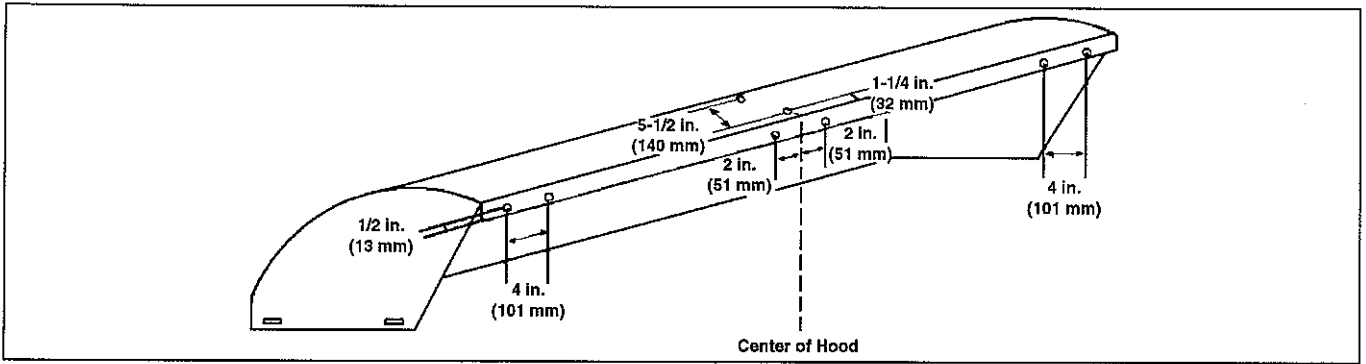

figure 29
2. Drill eight 9/32 in. holes in the brush hood as shown in figure 29.